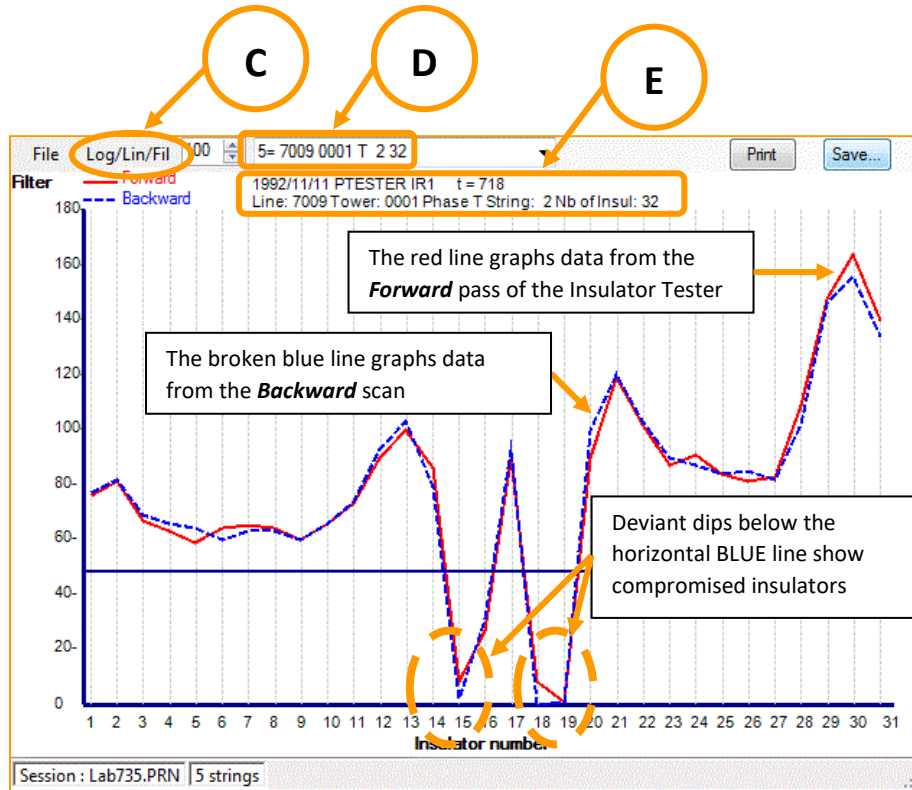

Figure 17
- C) **Log/Lin/Fil** (Figure 17) indicates the scaling upon which the graphic results of the scans will be represented. This scaling option is made available by the Windows-based Insulator Tester Software for very High Voltage insulator strings of 12 or more Porcelain insulators.